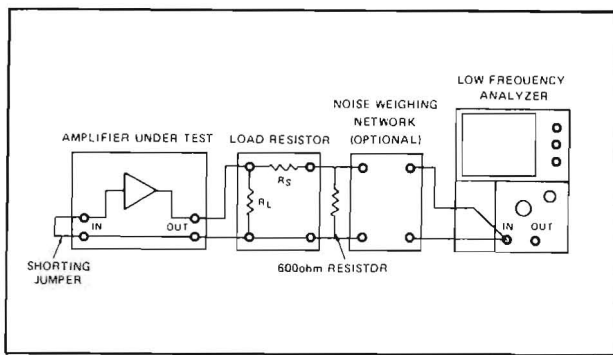

Figure 35 Equipment Connections to Measure S/N
1. Set up the equipment as shown in Figure 35. Apply a 1000 Hz tone from the audio signal generator to the amplifier input. Adjust the signal level so the amplifier is driven at rated power output (volume control maximum) as indicated by the 2 dB/DIV display of the spectrum analyzer.